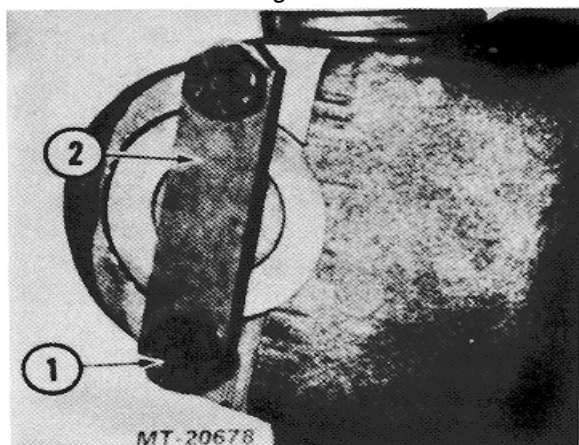

Fig. 25
2. **THRUST PLATE CONSTRUCTION** (Fig. 25) - Remove capscrews and plate. The balance of the disassembly and assembly instructions are the same as those for snap ring joints.